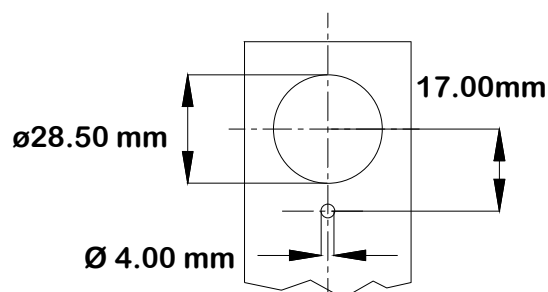

Figure 2
c) You will need to fabricate a mounting bracket that will hold the sensor in place. If you will mount the sensor using the clamping collar provided, drill holes in the bracket per figure 2.